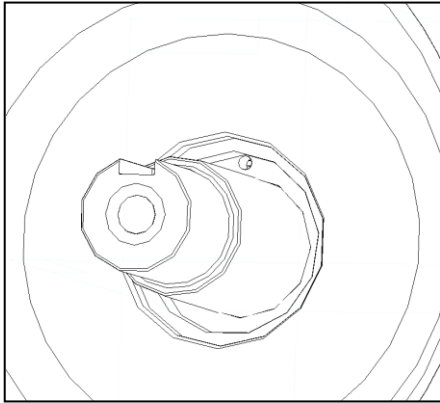

Figure 15: ESP without lock against rotation
- 1) The lock against rotation for the counter-ring in the seal holder only is needed for installation of the mechanical seal HJ 977 with pump type CSP (figure 16)! For installation of the mechanical seal MG12 with pump type ESP, no locking pin is mounted (figure 15) since it would hinder function of the seal. For installation see figure 19.